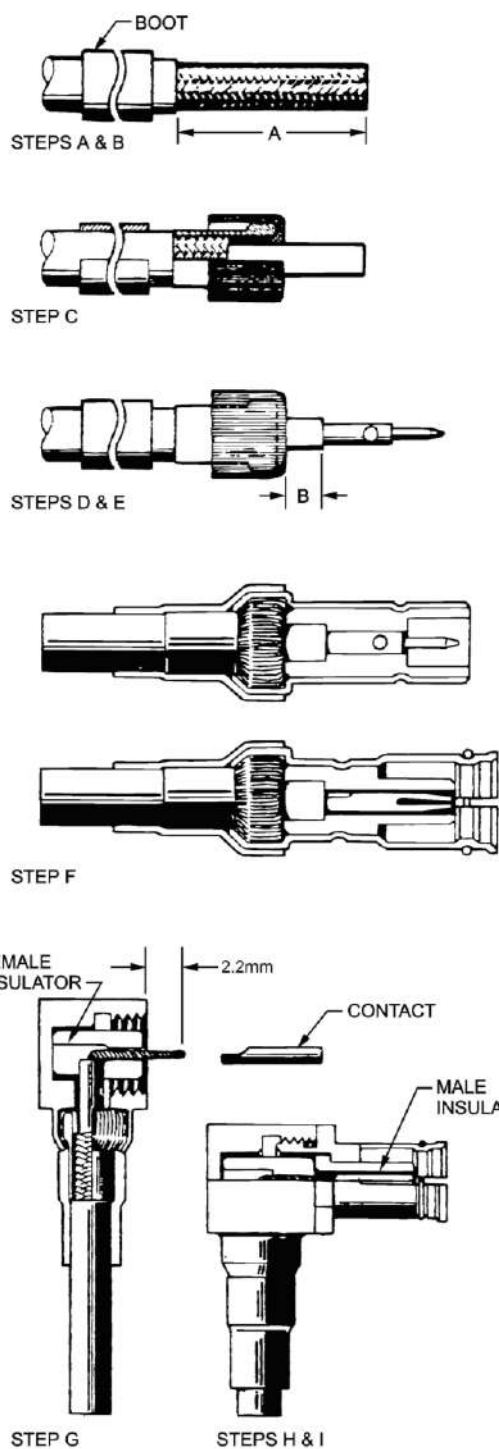

Figure 12-37 Attaching Subminiature RF Connectors to Coaxial Cable
30. When attaching subminiature RF connectors to coaxial cable, follow this procedure (see Figure 12-37):